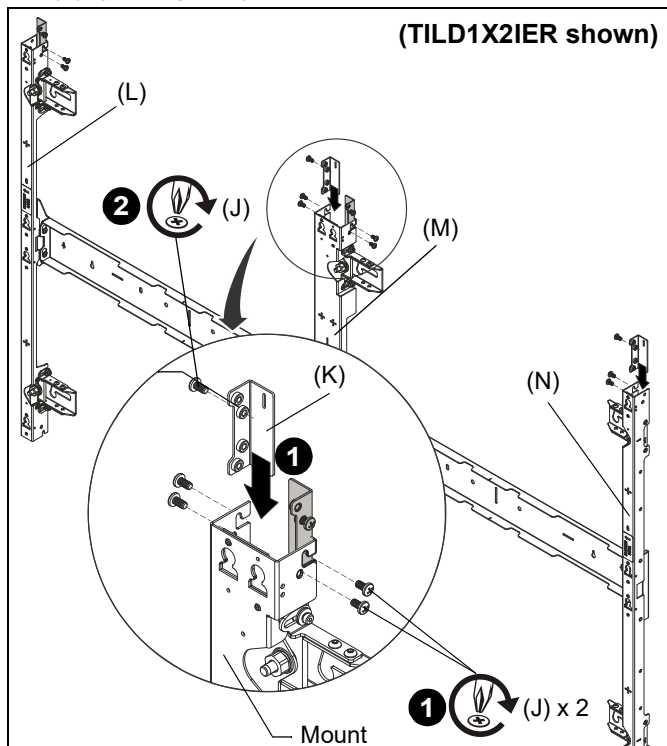

Figure 7
1. Slide the vertical connector (K) down from the top of the mount, and attach with two 1/4-20 x 1/2" Phillips pan head screws (J) per vertical connector. (See Figure 7)
2. Loosely install one 1/4-20 x 1/2" Phillips pan head screw (J) in the lower screw hole at the top of each vertical connector (K). (See Figure 7)